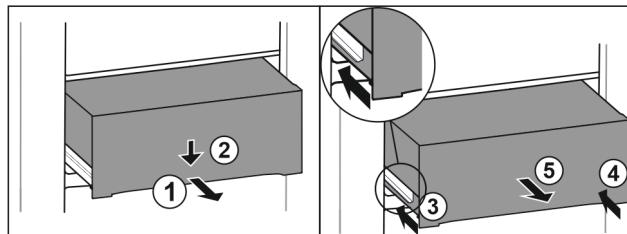

Fig. 103
- ▶ Pull out drawer half-way. Fig. 103 (1)
- ▶ Push the drawer down at the front. Fig. 103 (2)
- ▶ Push the left rail in by about 2 cm. Fig. 103 (3)
- ▶ Push the right rail in by about 2 cm. Fig. 103 (4)
- ▶ Remove drawer to the front. Fig. 103 (5)